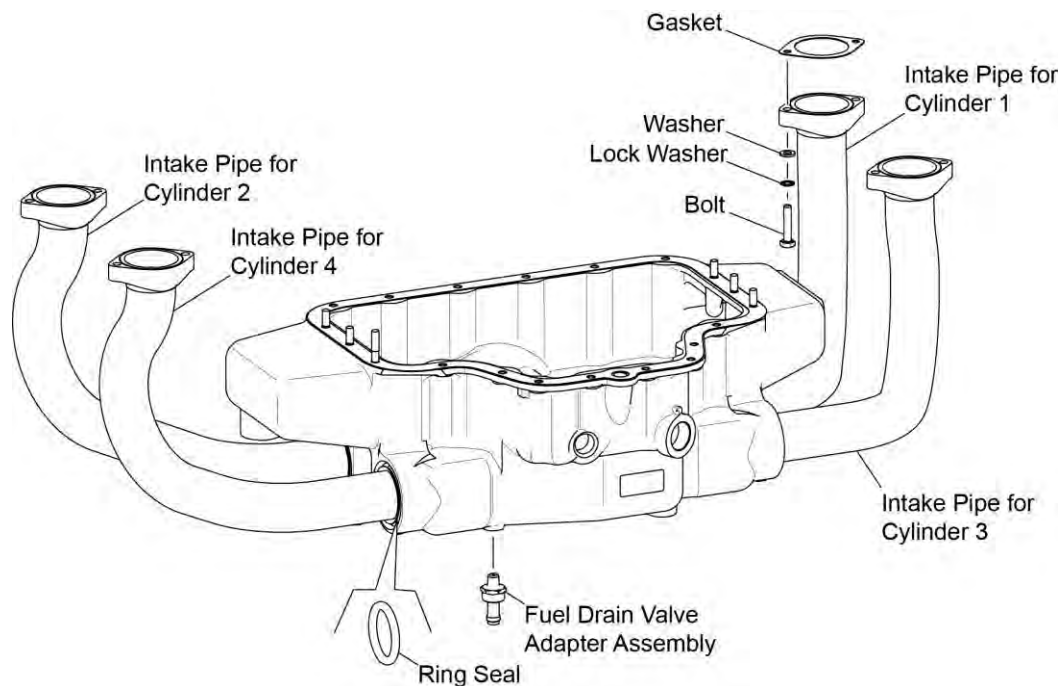

Figure 1
NOTICE: Each engine cylinder has a corresponding intake pipe of a different part number. Be sure to replace the intake pipe with the correct replacement intake pipe that corresponds to the engine cylinder number (Figure 1).
- (1) Remove the two bolts, lock washers, and washers from the intake pipe flange at the engine cylinder (Figure 1). Discard the lock washers.
- (2) Remove the gasket from the intake pipe, discard the gasket.
- (3) If the intake pipe is not to be replaced, attach a label to the intake pipe that identifies the corresponding engine cylinder number for reference on assembly.
- (4) Remove the intake pipe and ring seal at the oil sump connection. Discard the oil seal.
- (1) Apply a coating of clean engine oil to a new ring seal.
- (2) Install the intake pipe with a new ring seal at the oil sump (Figure 1).
- (3) Attach the corresponding intake pipe to the correct engine cylinder flange with a new gasket, two bolts, two new lock washers, and two washers. Torque the two bolts to 96 to 108 in.-lb. (11 to 12 Nm).